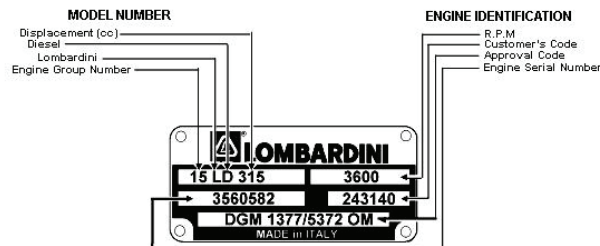

Figure 2
1.6.2 Engine Data Plate (figure 2)